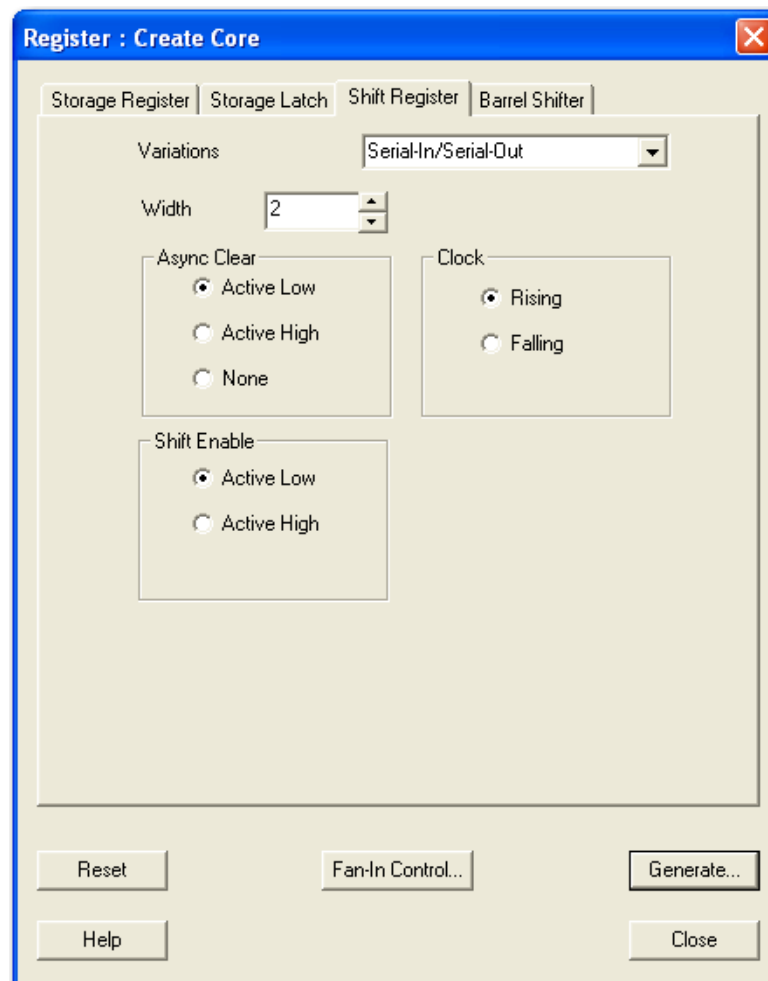

Figure 2-21 · Configuring the Shift Register
5. In the catalog, under Basic Blocks, click **Register**. Select the shift register tab (Figure 2-21 on page 38). Select **Serial-In/Serial-Out** for the variation. Set a width of 2. Select **Active Low** for the async clear. Select rising clock. Select active low shift enable. Then click **Generate**. Give this core the name “reset_delay.” Click **OK**.